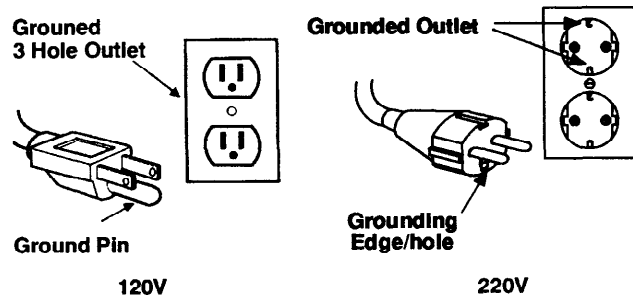

FIG. 3.
7. Plug power supply cord to a grounded wall outlet (Fig. 3).